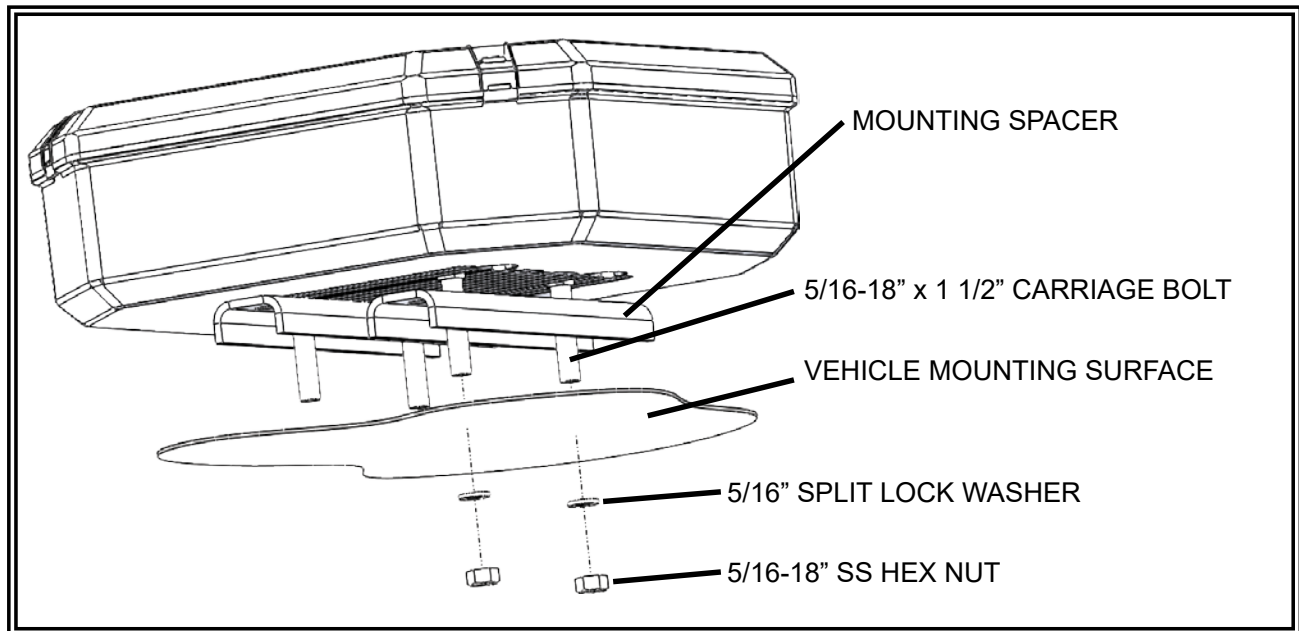

FIGURE 1
2. Place spacer over bolts as shown in FIGURE 1.